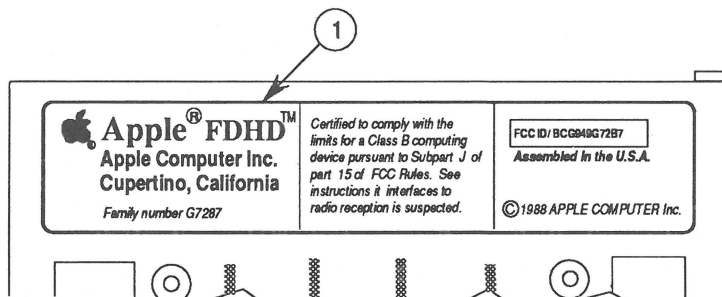

FIGURE 2
2. Check the product label (Figure 2, #1) on the bottom of the case; **Apple FDHD** appears on all FDHD external drive cases.